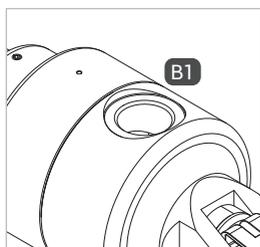

Figure 2
- ▶ Screw the 'B1' media inlet pressure-tight to the port for the media line (Figure 2).